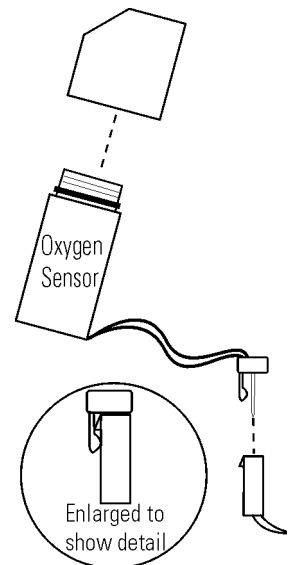

Figure 5-11. Detail
3. Lift up slightly on the tab securing the sensor wire terminal connection. Be careful not to break the locking tab off. See enlarged detail of Figure 5-11.
7. Orient the connectors as shown in Figure 5-11 and connect.